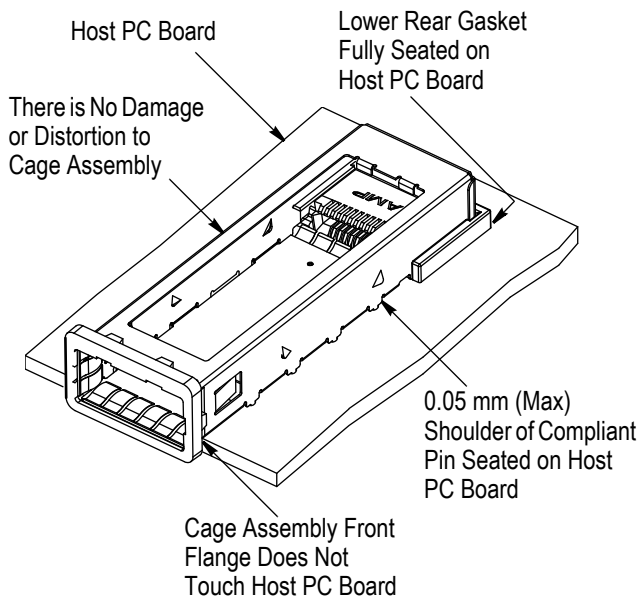

Figure 4
5. Inspect the seated cage assembly according to Figure 4.